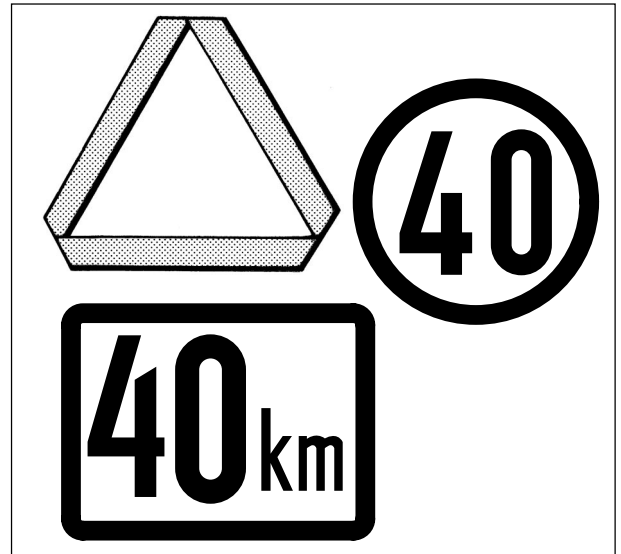

Fig. 2-38 Use the symbol valid in your country.
- Make sure tractor and equipment are equipped with slow moving vehicle (SMV) signs or beacon if the law requires them (Fig. 2-38 and 2-39) and that loads do not obscure them.